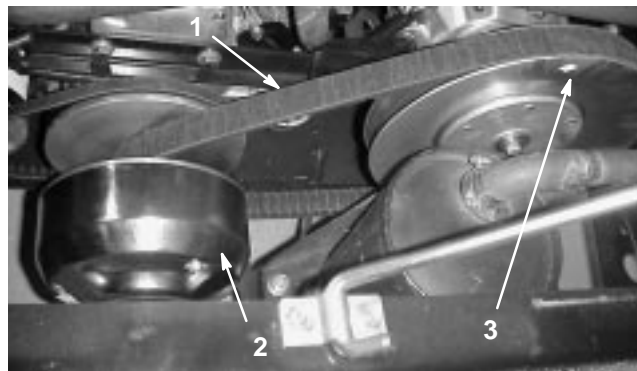

Figure 37
- Rotate and route the belt over the secondary clutch (Fig. 37).
- Remove the belt from the primary clutch (Fig. 37).